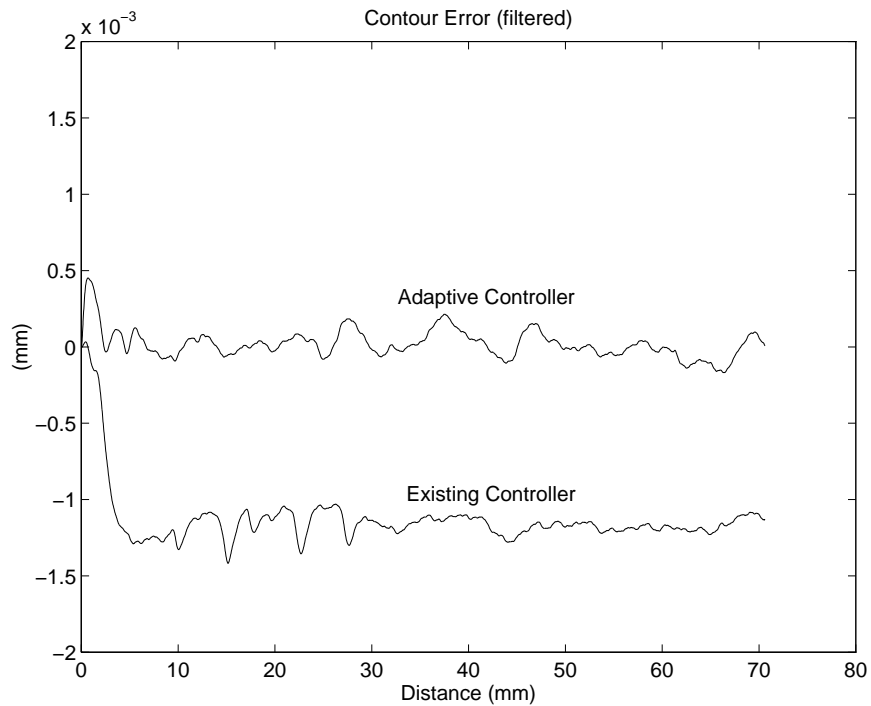
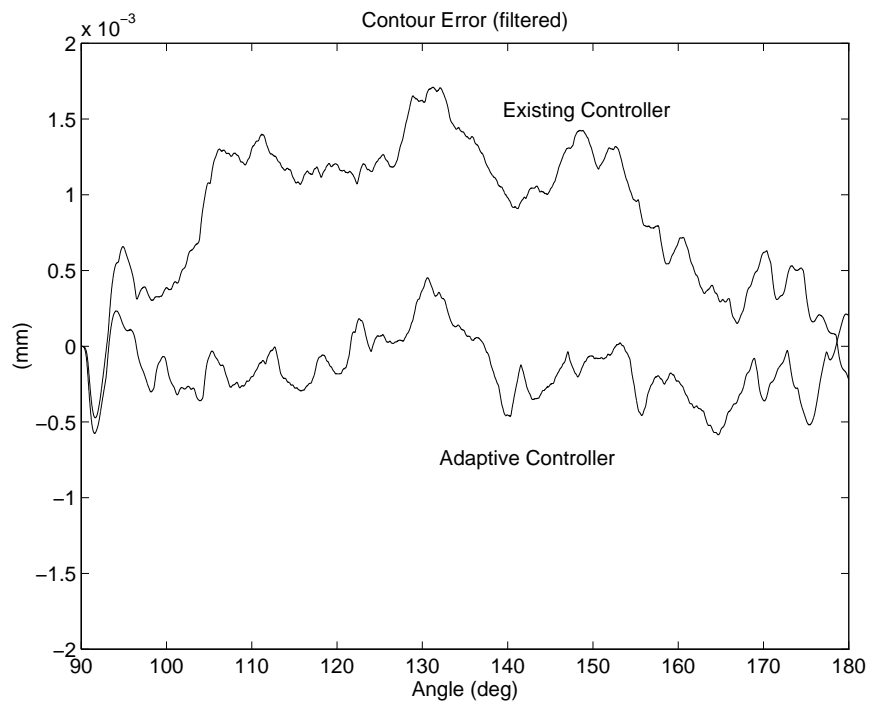

Figure 3 Contour Error for Line at -135° (Existing Controller vs. Adaptive Controller)
Figure 4 Contour Error for Circle (Radius = 75 mm)
- The experimental results for the new adaptive algorithms show a reduction in the contour error. Figure 3 presents the contour error reduction for a straight line at -135° , and figure 4 presents the contour error reduction for a circular contour of radius 75 mm.